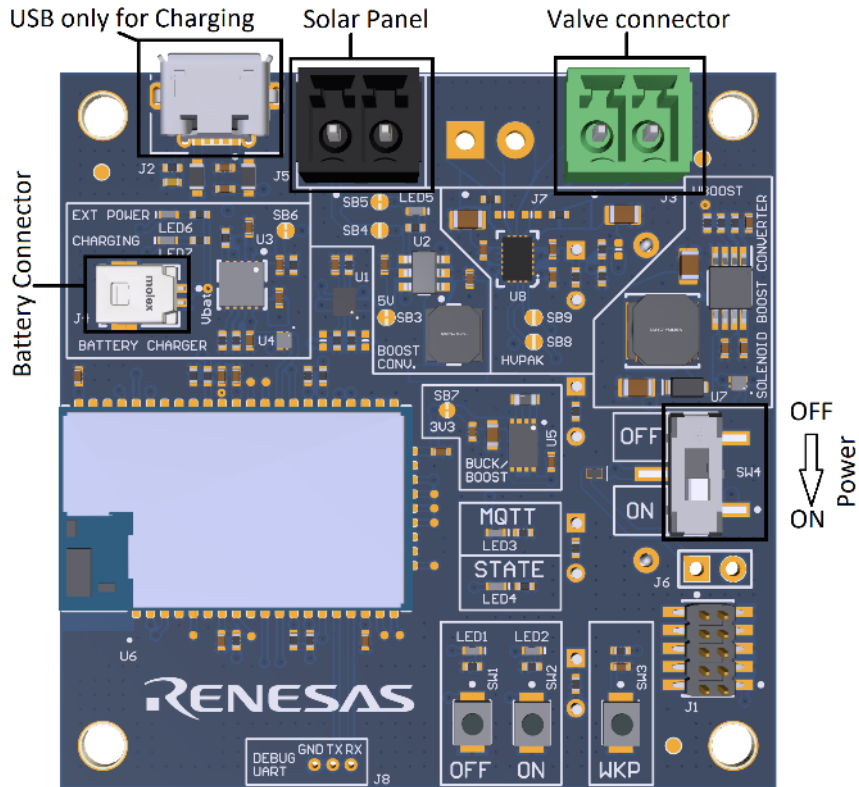

Figure 3: PCB Top View with the default jumper configuration.
3. Please note the main connectors that are shown in Figure 3:
5. Move the Power Supply Switch to ON Position (Figure 3)